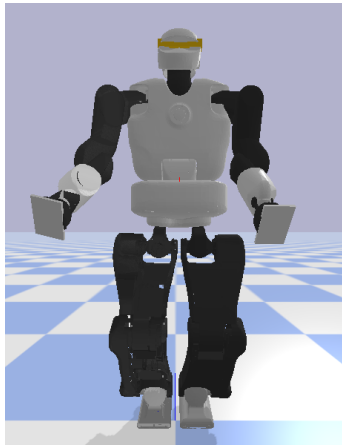

Figure 1: Prepare a home posture standing simulation for the Talos robot
1. Prepare a simulation with a robot standing as shown in Figure 1. Use a whole body controller as in Tutorial 4 including a task to control the CoM and the whole-body angular momentum. Save the python script as `t51.py`